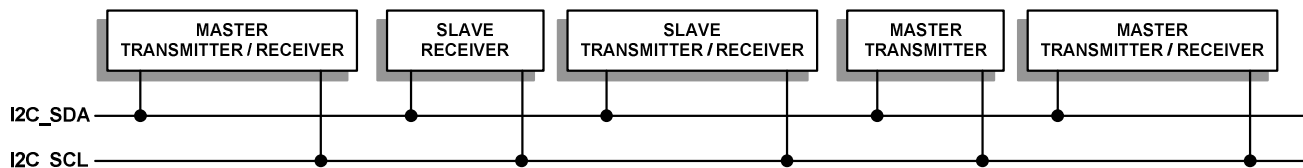

Fig. 5.2.2 System Configuration
- (1) Data transfers for register writing follow the format is shown in Fig.5.2.2.
- (2) After the START condition (S), a slave address is sent. R/W bit is setting to "zero" for WRITE.
- (3) The slave issues an ACK to master.
- (4) 16 bits register high byte address transfer first. Then transfer the register low byte address.
- (5) 16 bits register high byte data of parameter transfer first. Then transfer the register low byte data parameter.
- (6) A data transfer is always terminated by a STOP condition.